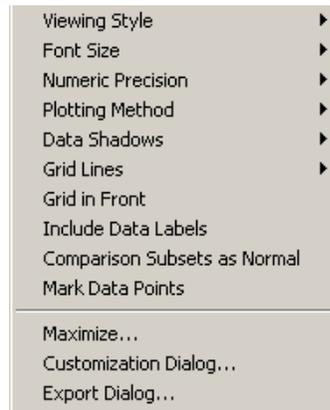

Figure 52 Graph Menu Items
1. Right-click anywhere in the graph on the **Standards** tab. The **graph** menu opens. See Figure 52.